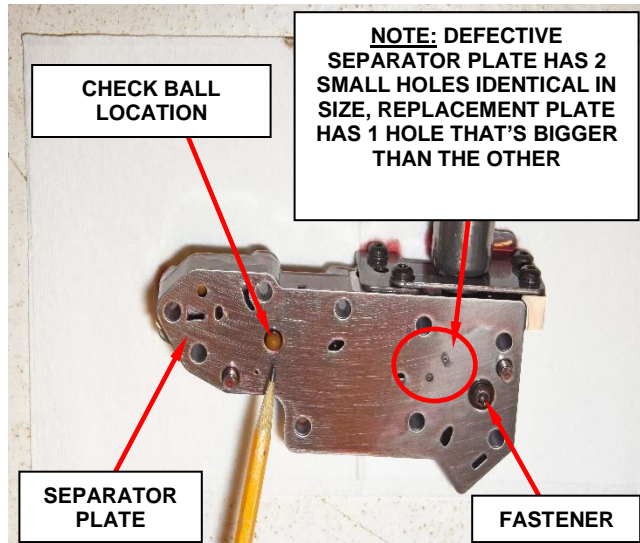

Figure 4 – Check Ball
10. The Check Ball may or may not be on top of the mating separator plate hole as the lower valve body is removed from main valve body (Figure 4).
11. Remove Lower Valve Body Separator Plate fastener (Figure 4).
12. Remove, **bend** and **discard** the separator plate (Figure 4).